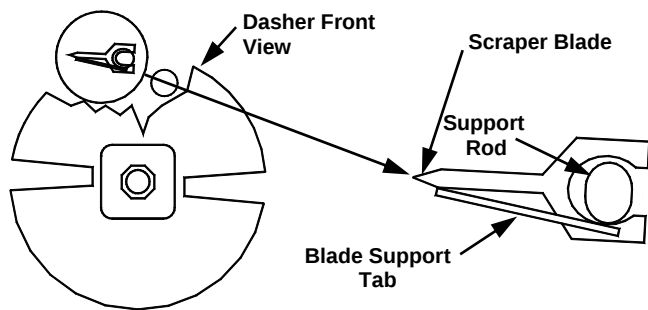
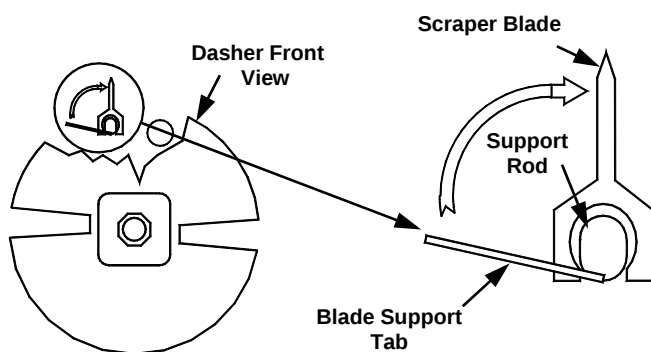

Fig. 9a
Fig. 9b
- Remove the blade from the dasher (Fig. 9a) by first rotating blade upward (Fig. 9b) and then unsnapping one end from the support rod.